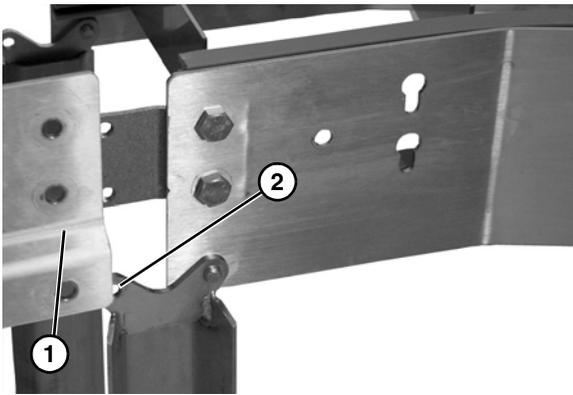

Figure 9
- Connect the straight section (**Figure 9, item 1**) making sure that the stand mounting hole (**Figure 9, item 2**) is to the inside of the straight section on both sides.